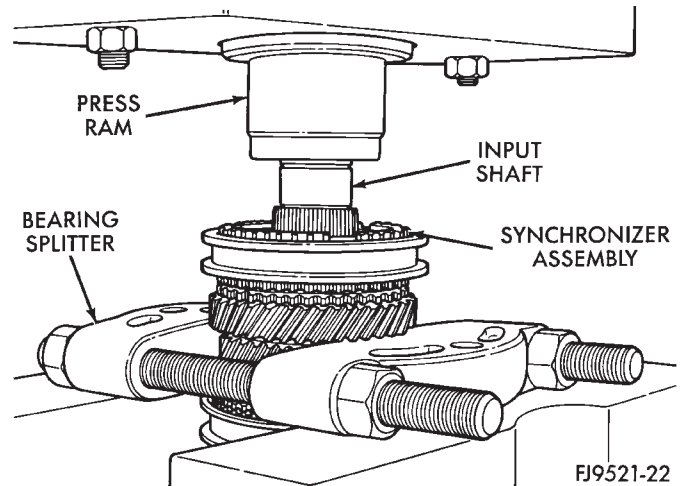

Fig. 89 Remove Synchronizer Using Shop Press
(2) Remove synchronizer and gear using shop press (Fig. 89).